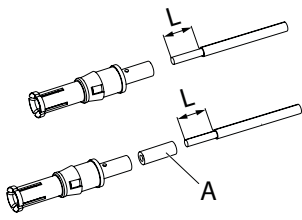
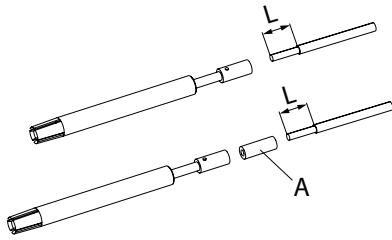

Fig. 35: Pilot contacts
Fig. 36: Auxiliary contacts
- Strip the cables for the pilot/auxiliary contacts to length L as indicated in the table below (Fig. 35 or Fig. 36).
If a reduction of the connection cross section is necessary, use reducing bushing (A) (Fig. 35 or Fig. 36).